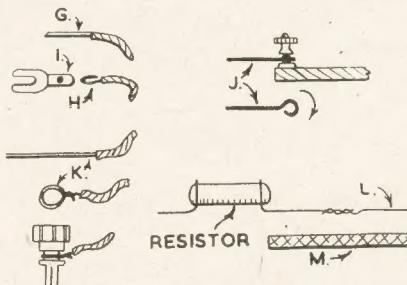

Fig. 3—Making proper connections
Good joints throughout are essential in any receiver. To fix spade-ends for accumulator connections, bare about  $\frac{1}{2}$  in. of flex, as shown at (G) in Fig. 3. Then twist tightly and double back, insert in the spade, and tighten up the small screw (I). The doubled end (H) should be held firmly, or crackles, etc., may arise.